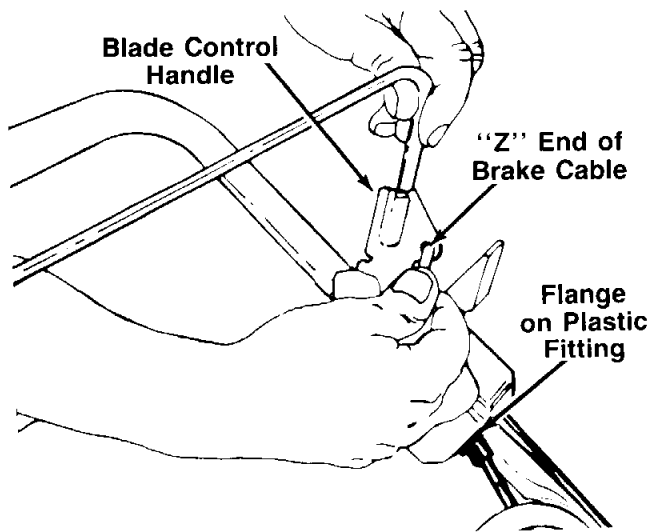

FIGURE 6.
- Hook the "Z" end of the brake cable into the hole in the blade control handle from the inside to the outside as shown in figure 6.